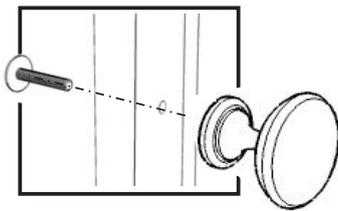

Figure 3
Assemble Pull Handles to Door (N) and (O) with Machine Screws. (see Figure 3)